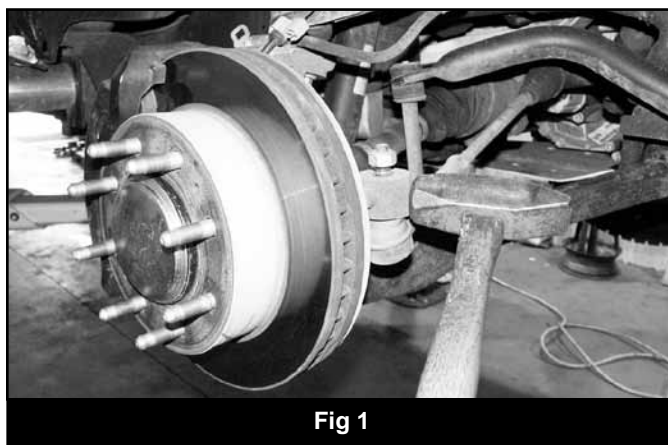

Fig 1
14. Disconnect the tie rod ends from the steering knuckles. Remove and retain the mounting nuts. Strike the steering knuckle at the tie rod end to dislodge the end (Fig 1). Take care not to damage the tie rod end.